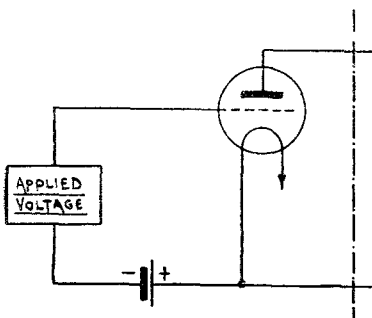

FIG. 18. Battery bias.
7. Grid Bias Methods.—(a) *Battery bias.*—This provides a steady bias but is cumbersome, requires maintenance and is not automatic (see fig. 18); (Dotted and missing parts do not immediately affect the grid bias.)